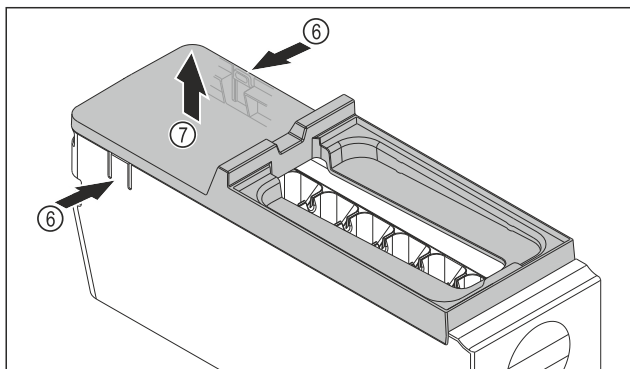

Fig. 145
- Removing the EasyTwist-Ice body cover: Push the tabs Fig. 145 (6) on both sides of the EasyTwist-Ice body with one hand.
- Use the other hand to remove the cover Fig. 145 (7) upwards.